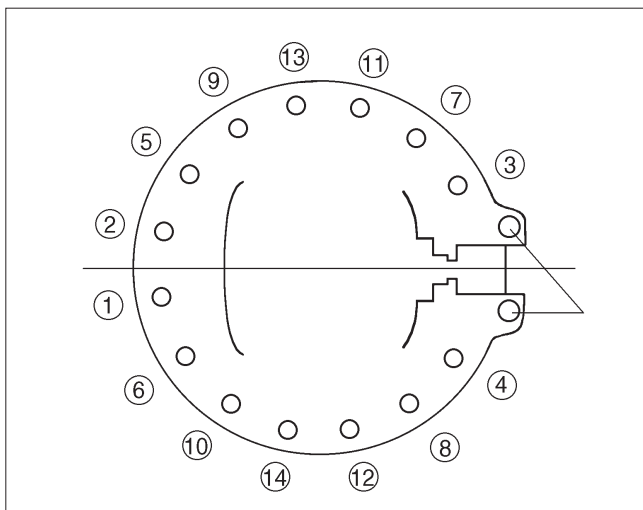

Fig. 16 Tightening the body joint bolts
- After fitting the ball and the body gasket, lift the male body half (1) and the seat (7) onto the ball. See Section 4.7.
- Check the correct alignment of the bonnet bore with the body joint. Push the bonnet (8) onto the stem.
- Put the bonnet (8) into its place. After tightening the flange bolts loosen the bonnet bolts and remove the bonnet.
- Tighten the flange bolts as indicated in Figure 16. Start from opposite the stem and first tighten the bolts to torques that are 10 % of the values in Table 1. Then tighten them to their final torques in the same sequence.